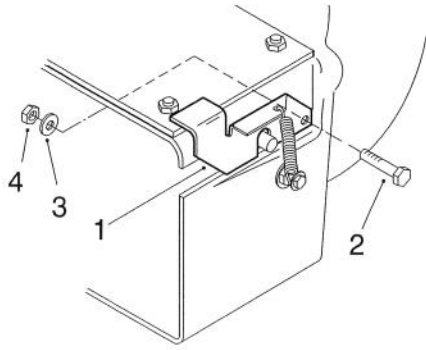

Figure 5
6. To install the latch, hook the end of the spring in the small hole in the latch. Slide the $\frac{1}{4}$ " x $\frac{3}{4}$ " hex-head bolt through the latch and the hole in the blower housing. Secure it in place with a $\frac{1}{4}$ " washer and $\frac{1}{4}$ " nylon lock nut (Fig. 5), but make sure the latch pivots freely.